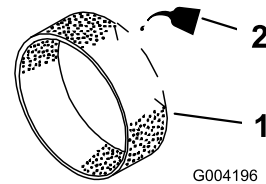

Figure 18
3. Put one or two ounces of oil on the pre-filter (Figure 18).